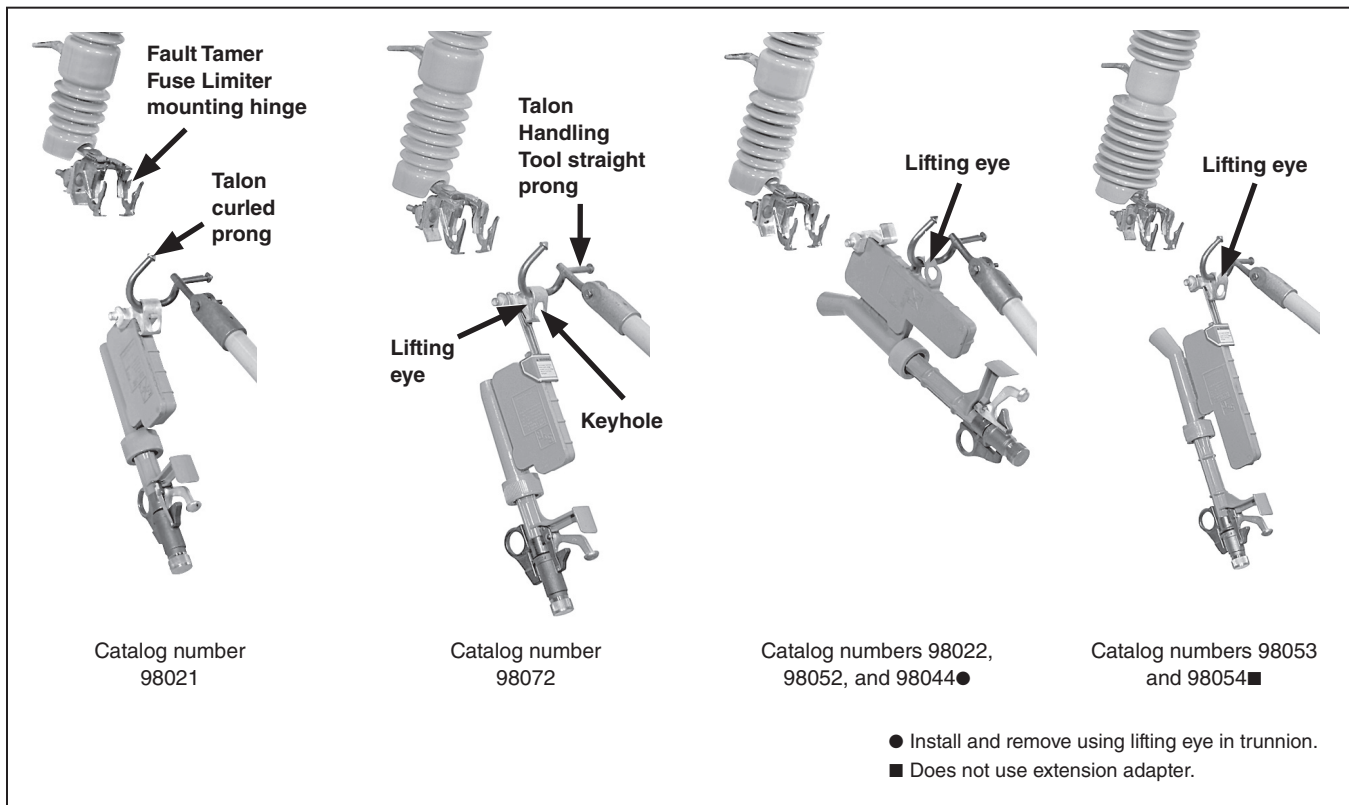

Figure 7. Installing a Fault Tamer Fuse Limiter into a mounting.
- STEP 1.** When a Fault Tamer Fuse Limiter operates, it swings to the **Open** position. Remove it from the mounting using a universal pole and a suitable fuse-handling fitting, such as a Talon™ Handling Tool or a distribution prong. See Figure 7 on page 12
- STEP 1.** Insert the curled prong of a Talon Handling Tool or a distribution prong into the opening of the lifting eye. See Figure 7. As an alternate, insert the straight prong on the Talon tool or a distribution prong into the keyhole opening in the trunnion. For some Fault Tamer Fuse Limiters, the lifting eye is located in the trunnion. For other models, the lifting eye is molded into the backup limiter.
- STEP 2.** Guide the Fault Tamer Fuse Limiter into the hinge of the mounting, as shown in Figure 7. Then, disengage the distribution prong. If a Talon tool is used, rotate the universal pole counterclockwise 180° to disengage.